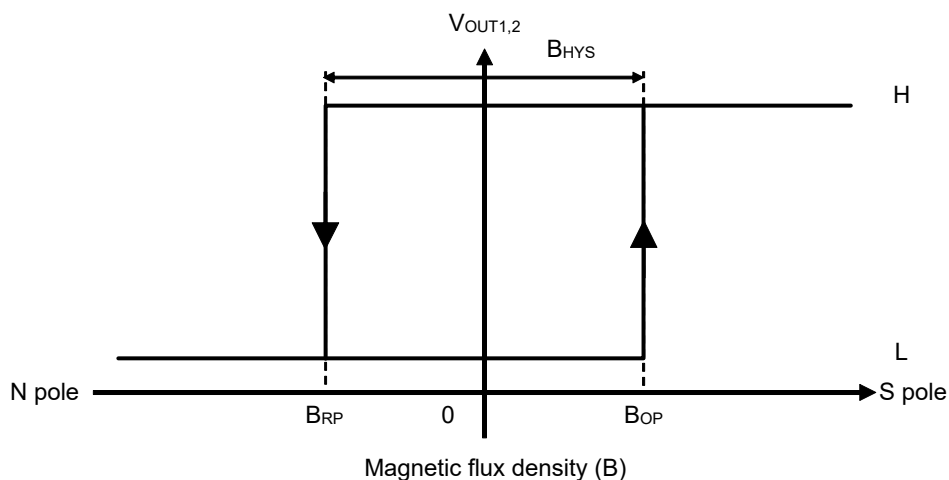

**Figure 16**
**Figure 16** shows the relationship between the magnetic flux density and  $V_{OUT1,2}$ .